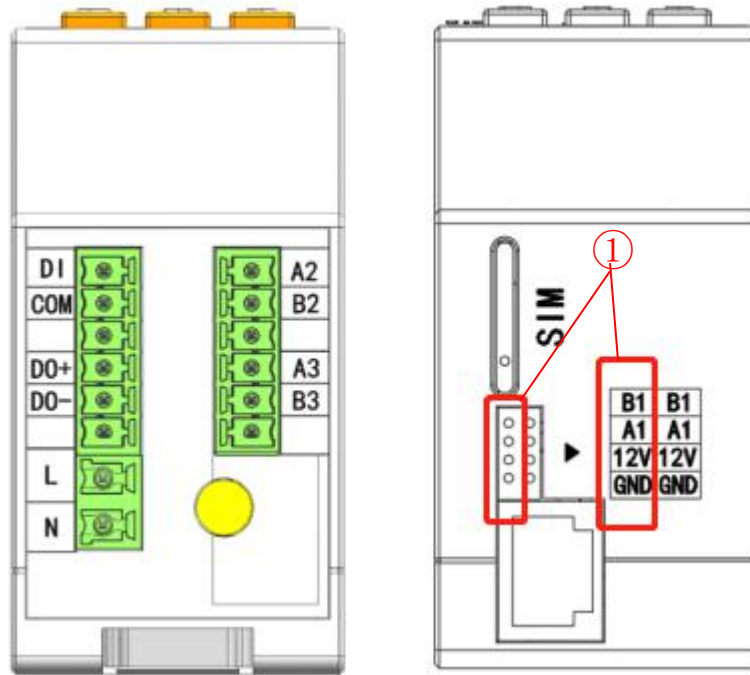

Figure 4 Schematic diagram of the intelligent gateway wiring terminals
Note: In area ① of figure 4, A1 and B1 are used to communicate with the intelligent micro circuit breaker over RS-485, '12V' provides auxiliary power to the intelligent micro circuit breaker.